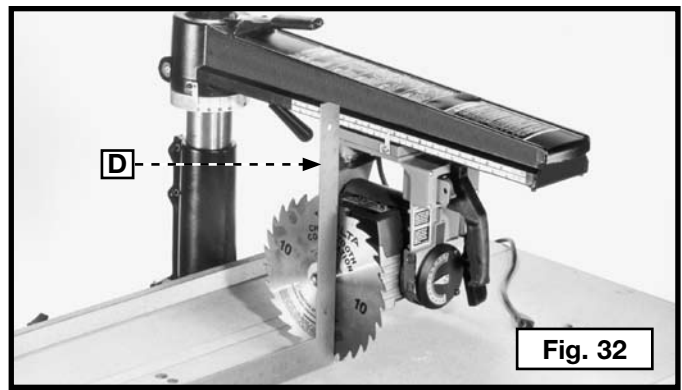

Fig. 32
- Place a square (D) Fig. 32 on the table and against the saw blade. See if the blade is square with the table.
- Remove the two screws (F) Fig. 31 and the bevel scale plate (H) Fig. 32 with the index knob (A).
2. With the blade guard (B) Fig. 32 in the left hand, insert the saw blade (C) into the blade guard (B) and on the arbor shaft.